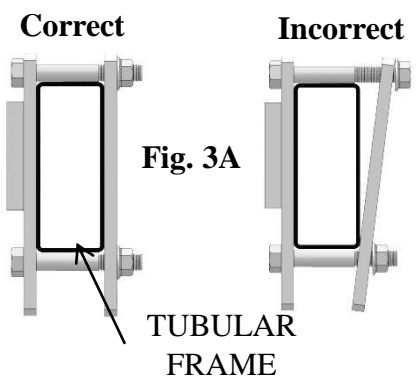

Fig. 3A
- Torque flange nuts (P) to 75 ft.*lbs. Do not tighten one all the way before tightening the other. Tighten evenly. See fig. 3A. Inner strap (W) will bend if done incorrectly.